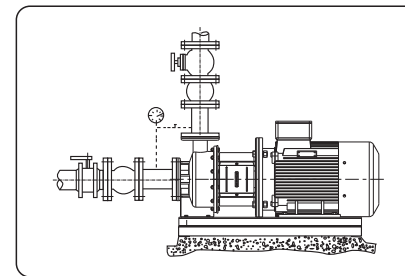

fig.3
- 6.5 Start the pump: Do not start the pump until it has been filled with liquid and vented. If the pump runs dry, the pump bearings and the shaft seal may be damaged. Vent the pump during starting by loosening the air vent screw in the motor stool until a steady stream of liquid runs out of the vent hole. (see fig.3)
H_v : Water Vaporization Pressure (Figure 3)